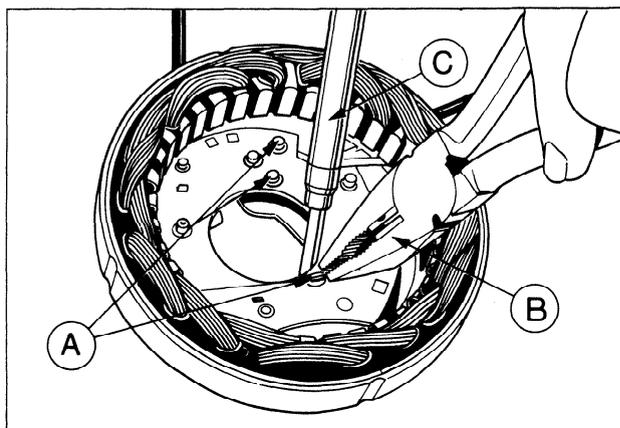

FIG. 9 Soldering Stator to Rectifier Connections
10. Unsolder stator to rectifier connections using a pair of pliers as a heat sink to reduce heat spread to diodes (Fig. 9).
1. Resolder stator to rectifier (Fig. 9). Use a pair of pliers as a heat sink to reduce heat spread to diodes.